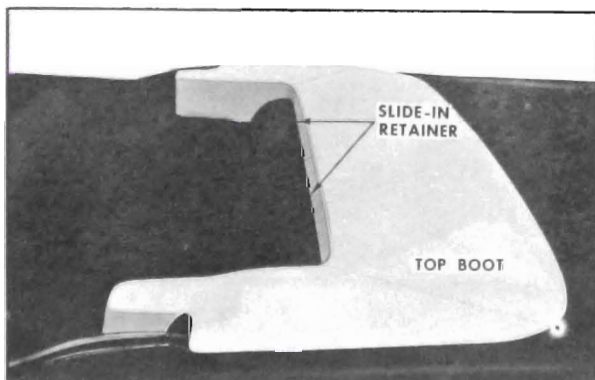

Figure 7-1—Top Boot
The top boot is attached to the body with concealed "floating-type" snap fasteners along the side and rear edges and a "slide-in" retainer along the front edge as indicated in Figure 7-1. When the folding top is raised, either of the following two methods may be used for storing the boot:
3. Engage remaining boot fasteners to studs on molding and rear quarter trim (Figure 7-1).